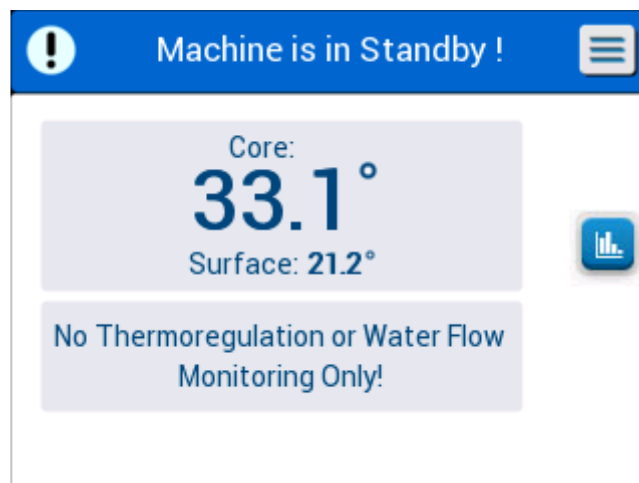

Figure 10: Standby
2. Following a short Self-Test, the system automatically starts to cool the water through internal circulation (as in Standby Mode) (See *Figure 10: Standby* on page 42).